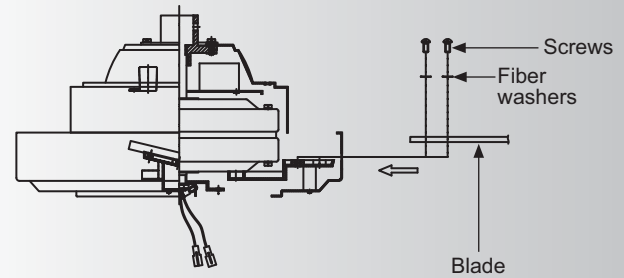

Fig. 6
Step 2. Insert the blade through the blade slot in the motor housing. Align the holes in blade and blade bracket, making sure the holes are also aligned and secure with the screws and fiber washers provided. Repeat process with other blades. (Fig. 6)
Step 3. Attach each blade assembly to the motor using the "Pre-Installed" mounting screws in the blade bracket. (Fig 6)